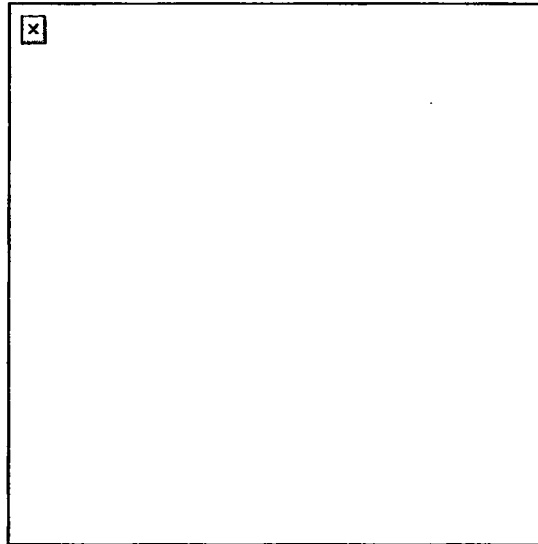

Figure 10. Removal of the alignment guide assembly.
- (1) Hold the top cover straight up to align the end of the cross pin.
- (2) Pull straight out on the pins.
- (3) Lift off the top cover.
- (4) Lift the tray out of the feeder.
- g. Remove the alignment guide assembly (Figure 10).